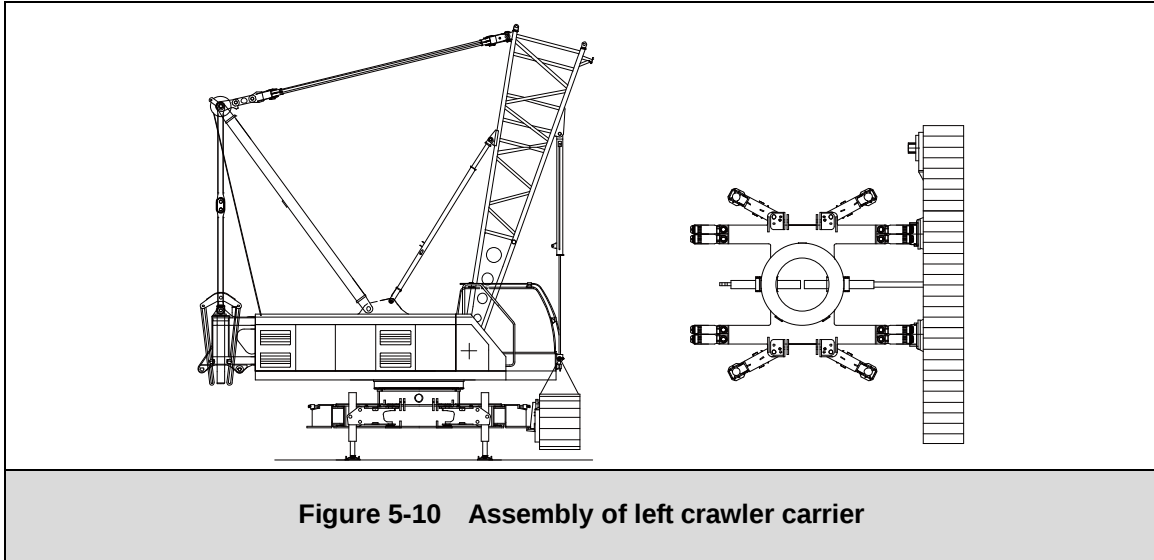

Figure 5-10 Assembly of left crawler carrier
- b) Adjust the position of crawler carrier via slewing mechanism, and the height of crawler carrier via derricking mechanism and mounting cylinder. Align the mounting holes of crawler carrier with those of undercarriage central section. (See the figure 5-10)